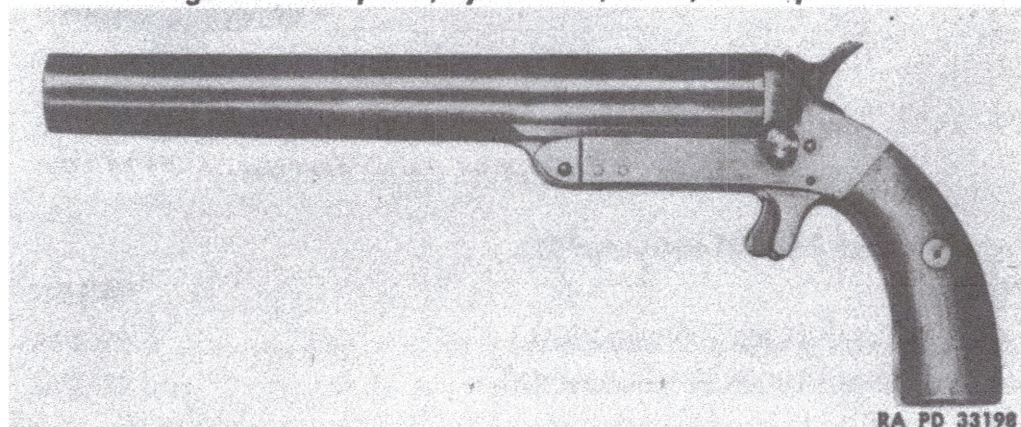

Figure 10 — Very Pistol, 10-gage, Mk. III—Left Side View
(8) **VERY PISTOL, 10-GAGE, MK. III** (fig. 10). This pistol is single-action, single-loading, and is used by lightly equipped ground troops or by tanks for signalling from the ground or from moving vehicles on the ground. The approximate height of the signal trajectory is 200 feet.